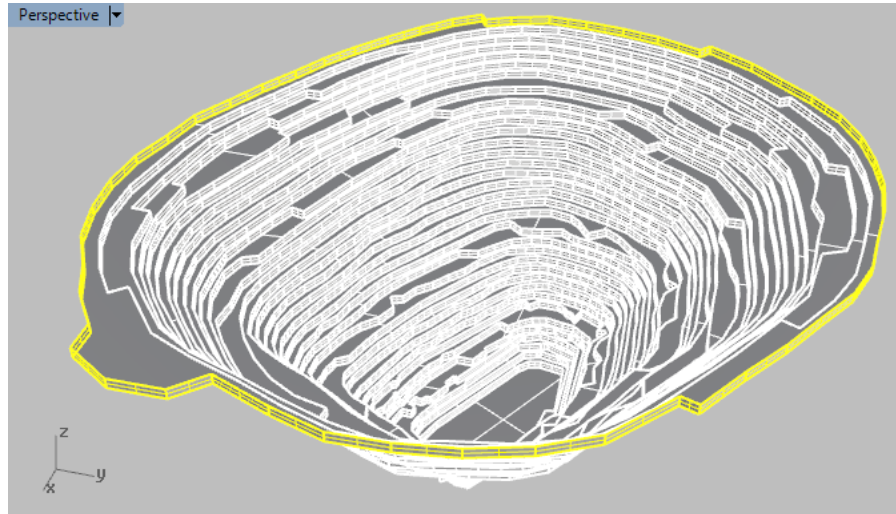

Figure 127: Topmost bench outline curve does not need to be extruded upward.
28. In extruding all the curves, we may have inadvertently extruded the outer curve of the topmost bench. The topmost bench is at the same level as the ground surface and doesn't need to be extruded. Select the Polysurface resulting from the extrusion of the curves of the topmost bench and delete it (Figure 127).